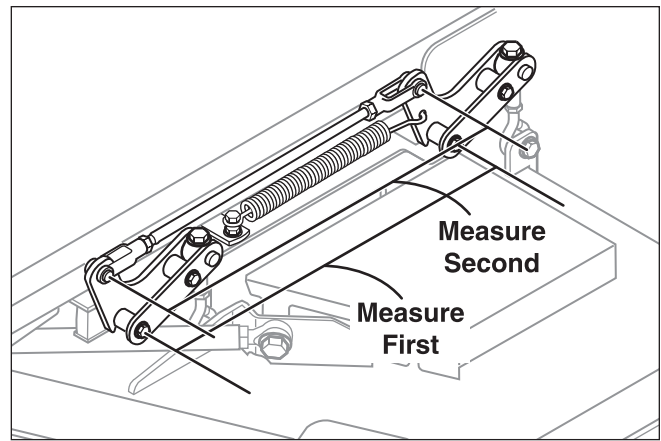

Figure 42. Check Lift Rod Timing
2. To check lift rod timing measure and record the distance between the lift pivots and the rod pivots. Repeat for other side of the unit. See Figure 42.